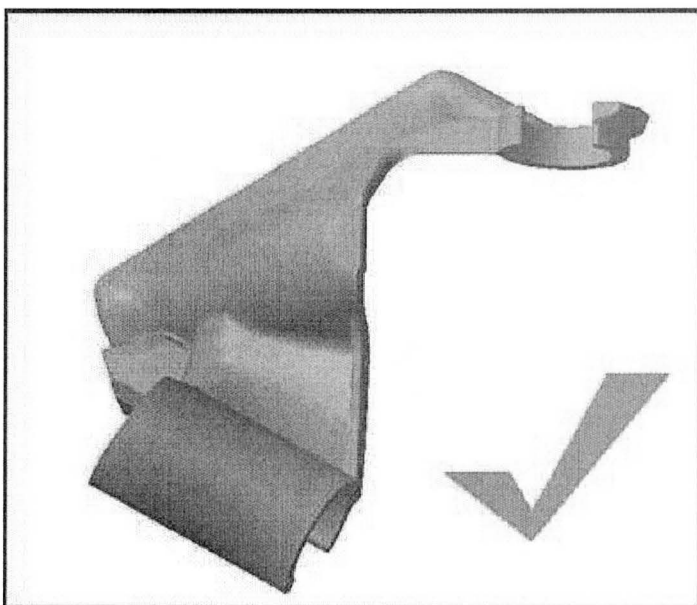

Figure 5
- The guide after the modification should be as shown in Figure 5